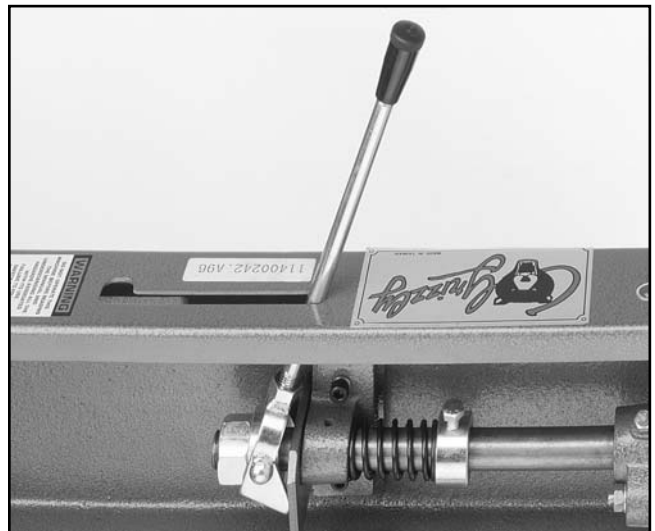

Figure 13. Installing the quick release lever.
2. Slide the quick release lever through the slot on the top of the platen cover. Thread it into place until it bottoms out. **Figure 13.** It may be necessary to have an assistant push the idler roller back into the machine to allow the quick release lever to line up with the thread in the yoke.